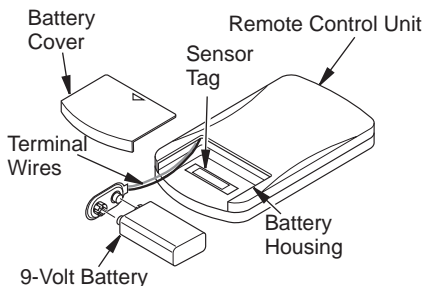

Figure 39 - Installing Battery in Hand-Held Remote Control Unit (HRC100)
6. Remove battery cover on back of hand-held remote (see Figure 39). Remove and discard sensor tag.